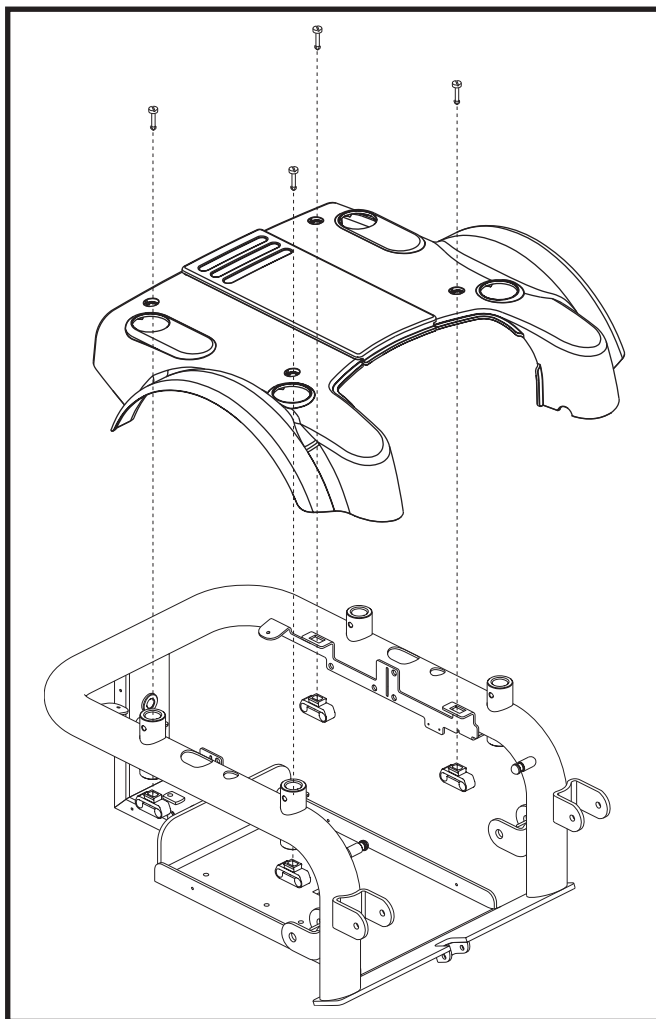

Figure 38. Jazzy 1121 Shroud Assembly/Disassembly
- If your multimeter indicates about 30 ohms for either test, then replace the VSI controller (1) and retest the system.
4. Remove the shroud. **See figure 38.**
2. Remove the shroud. **See figure 38.**